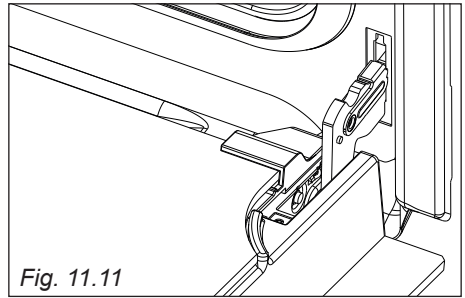

Fig. 11.11
- Open the door to the full extent (fig. 11.11).